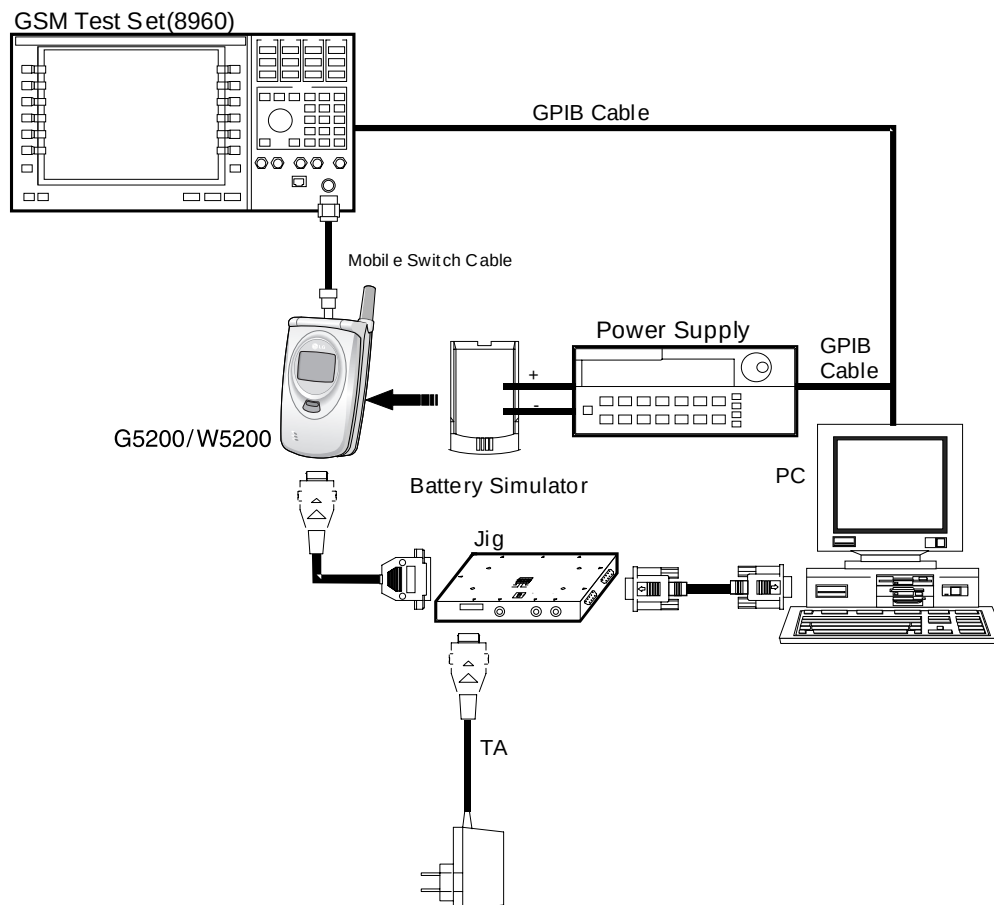

Figure 12-3. Equipment Setup.
1. Connect as Figure 12-3.(RS232 Serial cable is connected between COM port of PC and MON port of TEST JIG, in general)